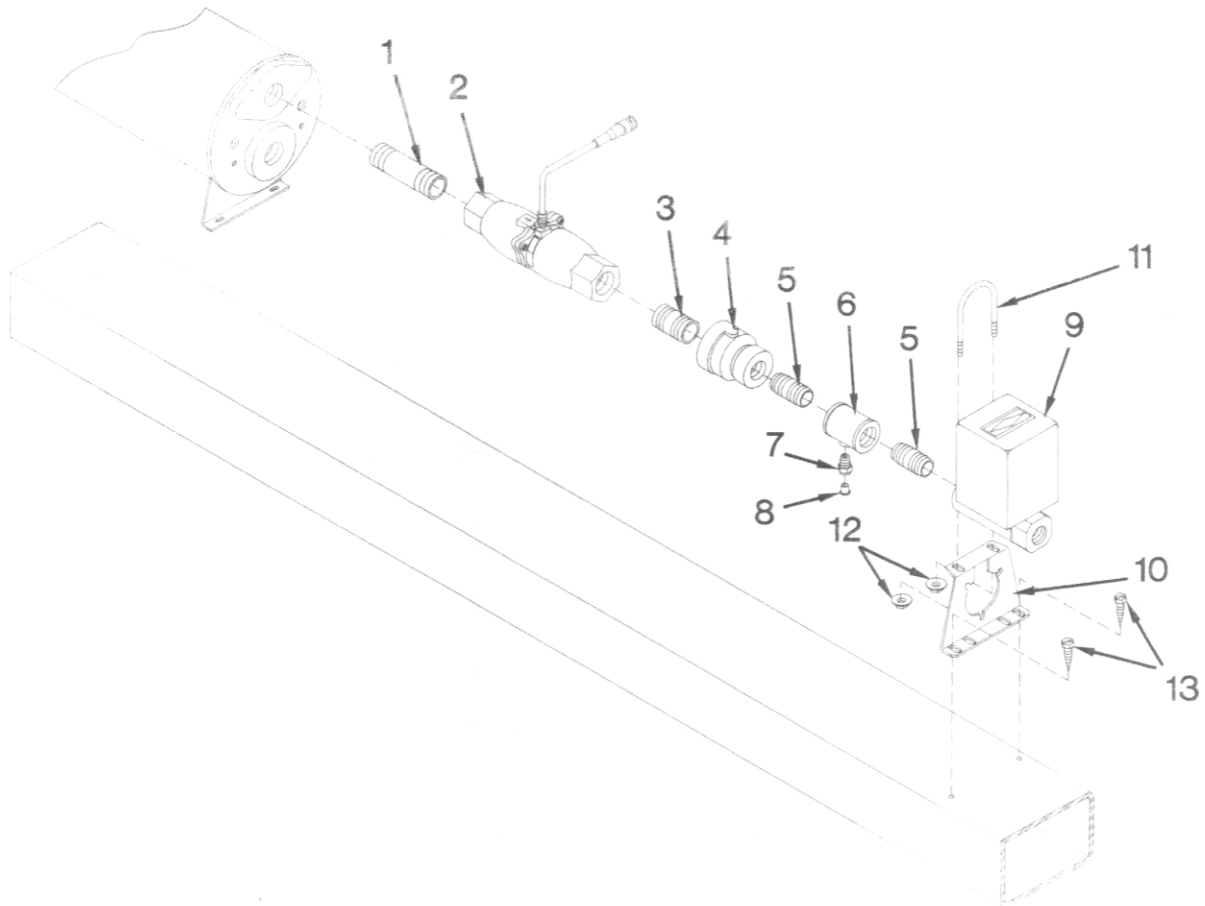

FIGURE 3
**IMPORTANT:** The pipe adapter (item 1) must be installed on the inlet side of the flowmeter. It's purpose is to reduce turbulence caused by hoses, elbows, and reducers. Failure to use at least 4 inches of straight 1 1/4 inch pipe may cause the flowmeter to be inaccurate.
**STEP 1** Refer to figure 3 and install the HM860 FLOWMETER (item 2), pipe adapters (items 1,3,4,5), the pressure relief valve (item 6, 7, 8), and the servo valve (item 9), to the output of the heat exchanger.
**STEP 2** Locate the mounting bracket (item 10) under the end of the servo valve as shown in figure 3. Mark the holes on the tool bar through the bracket bottom (wide end) and drill two 1/4 inch holes.